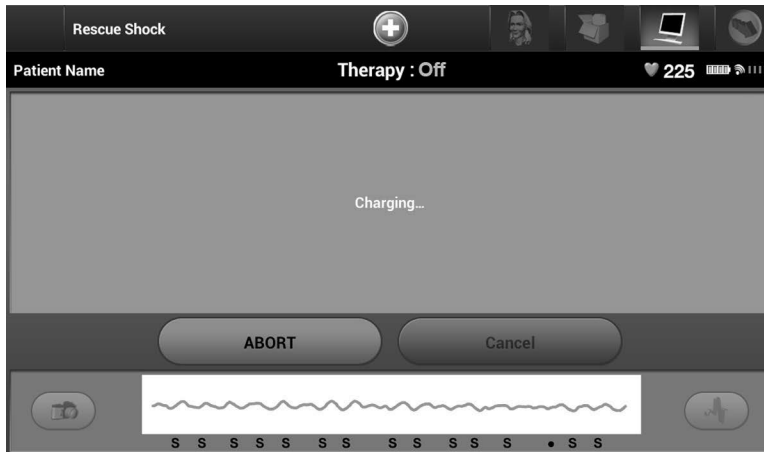

Figure 56: Charging for rescue shock
2. Select the Shock button to begin charging the pulse generator for a Rescue shock. A red background screen with the word "Charging" will appear (Figure 56). Selecting the Abort button will prevent delivery of a rescue shock and will return to the Device Settings screen.